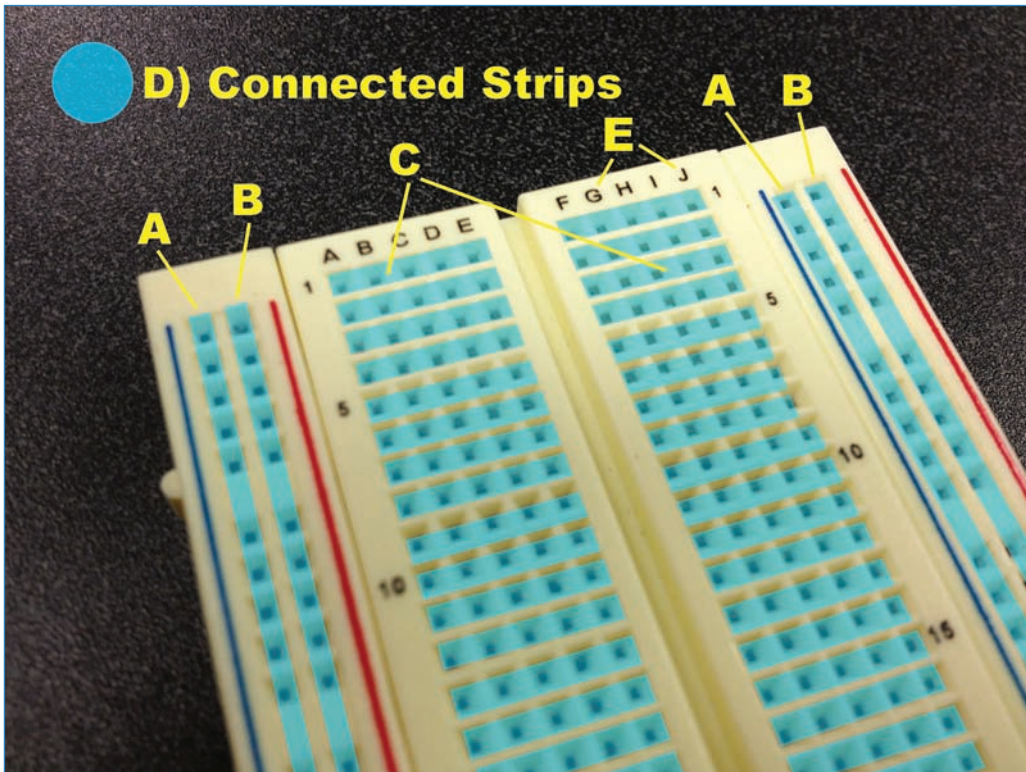

FIGURE 2.2 How does a breadboard work? This photo shows the operation of a typical breadboard.
A solderless breadboard is a plastic board covered in wire holes and featuring concealed conductors. These conductors in essence serve as additional wires for your project. You simply plug in your Arduino, motors, sensors, and so on to the board and use it to manage the connections. Figure 2.2 shows how a breadboard works.
- C. Terminal strips**—The terminal strips are perpendicular to the bus strips. Note that I have marked the terminal strips with light blue shading so that they stand out in Figure 2.2. Your breadboard will not be shaded in this way.
Typical breadboards consist of two bus strips on each side, with a power strip, usually marked in red, as well as a ground strip marked in blue or black. Perpendicular to the bus strip are the terminal strips. These are the ones in the middle, and consist of short rows of wire holes linked together by hidden conductors as marked in blue in Figure 2.2.